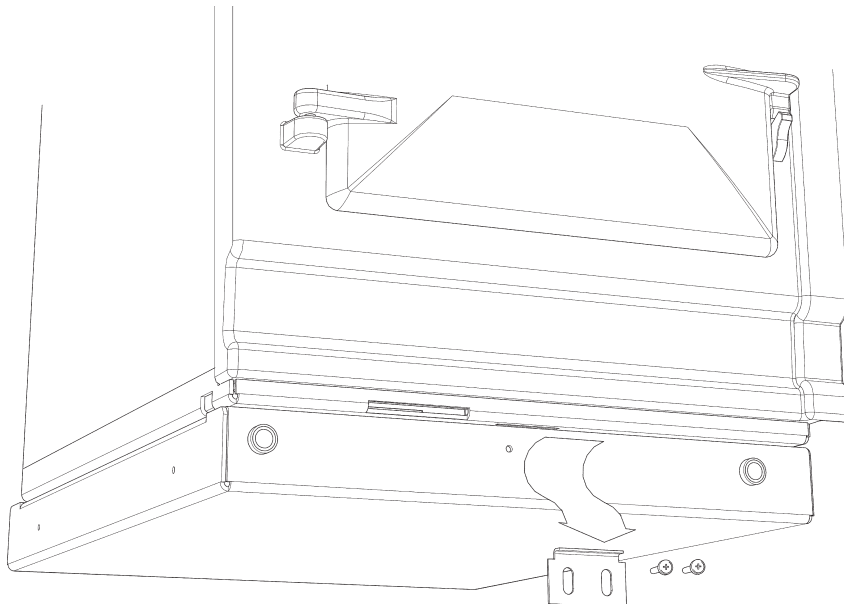

Fig. 7
1. Detach hotcupboard from plinth by removing two screws and tongue bracket from plinth (See Fig. 7), slide hotcupboard forwards and away from rear fixing bracket (See Fig. 8).